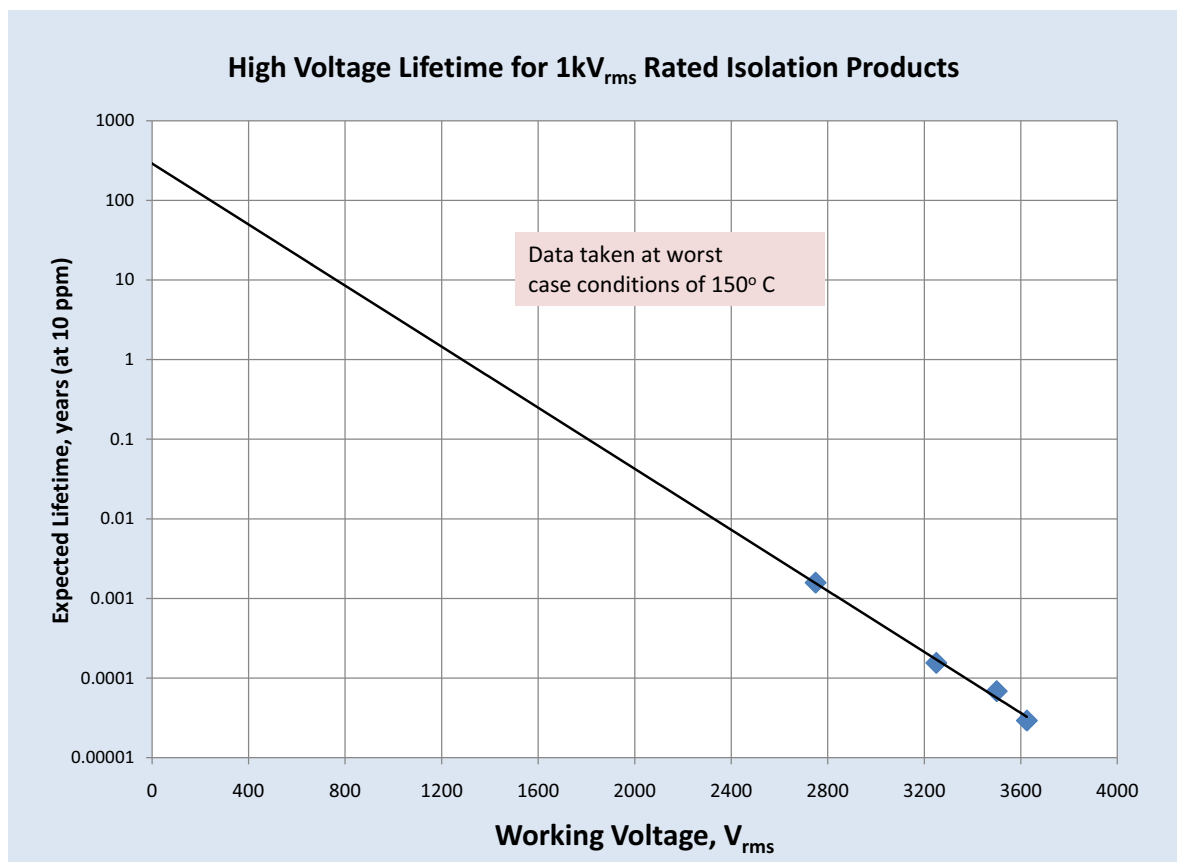

Figure 13. Si84xx Time-Dependent Dielectric Breakdown
- Added Figure 13, "Si84xx Time-Dependent Dielectric Breakdown," on page 22.
- Updated Figure 13, "Si84xx Time-Dependent Dielectric Breakdown," on page 22.